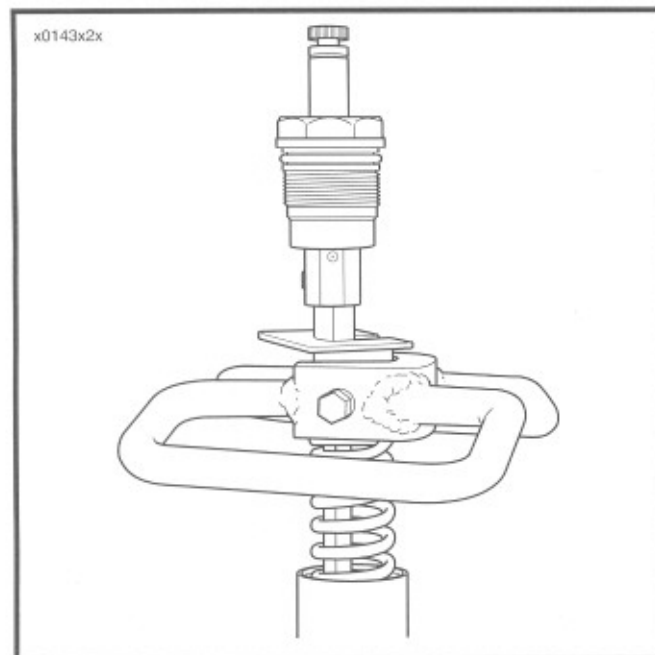

Figure 2-74.
17. See Figure 2-74. Using Fork Spring Compression Tool (HD-41549A) push spring collar down and place Spring Plate (HD-41551) between spacer and spring collar.